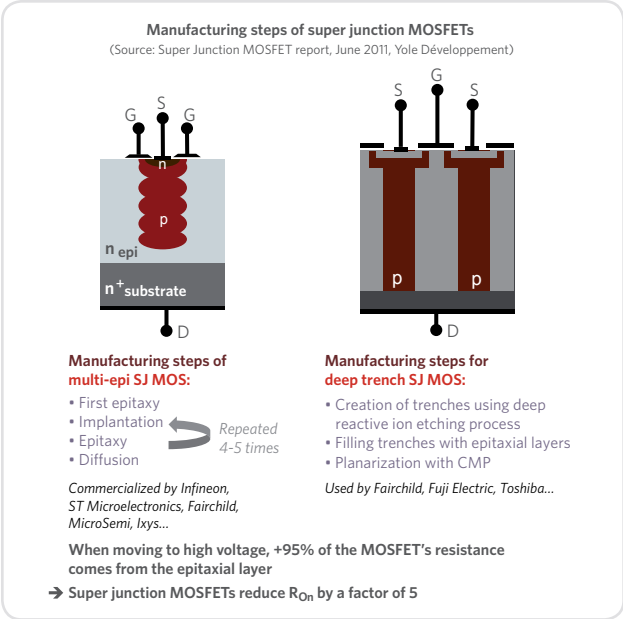

Figure 2. The two main methods used to produce the thick films required by super junction MOSFETs. (Courtesy of Yole Développement.)
■ **Discrete power transistors:** Super junction transistors (SJTs) switch quickly and can handle high currents, voltages and power levels. Today there are two ways to fabricate the SJT device (see figure 2). The first is a thick epi deposition doped in one area. The deposition is repeated several times to build thickness and then it is annealed (see figure 3). With the second method, a trench is etched and then filled with doped epi material.